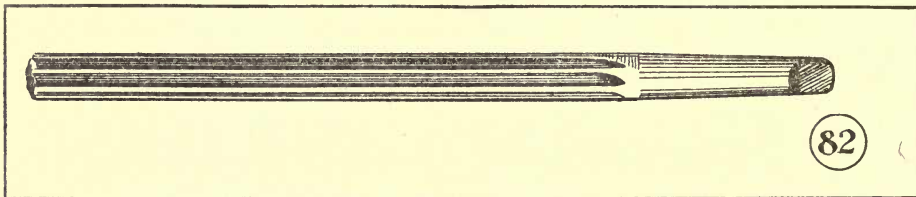

Fig. 82—Steering bracket bushing reamer which is used for reaming the starting crank bushing
6.—Ream out the hole with the reamer shown in Fig. 82. This is the steering-bracket bushing reamer, but it is the